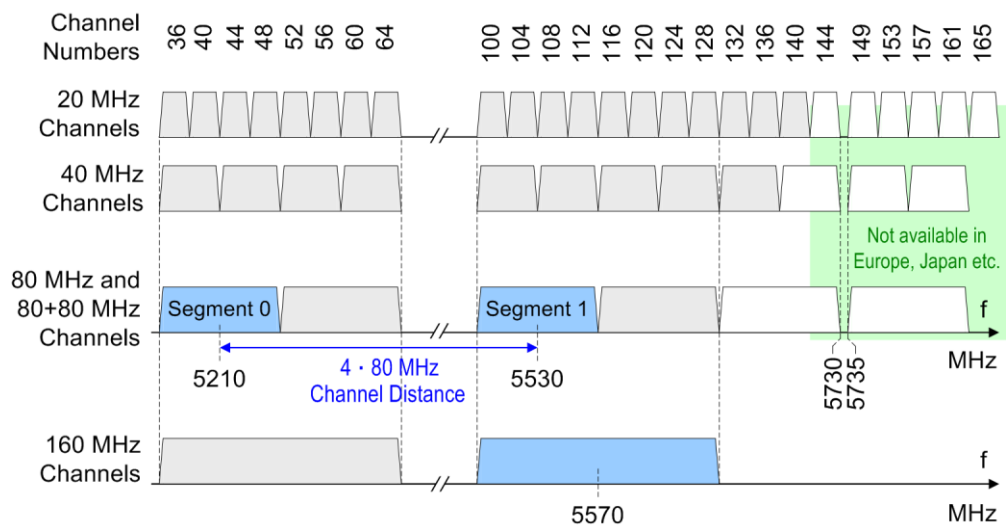

Fig. 1: 802.11ac channels
The 11ac amendment of the 802.11 standard specifies WLAN channels in the 5 GHz bandwidth bandwidths of 20 MHz, 40 MHz, 80 MHz and 160 MHz. The channels with bandwidths larger than 20 MHz fit into the grid of 20 MHz channels, e.g. an 80 MHz channel exactly comprises four 20 MHz channels. **Fig. 1** shows the available channels and gives examples for channels with overall 160 MHz bandwidth.
- **Noncontiguous 80+80 MHz channels** consisting of two nonadjacent 80 MHz channels. Rohde & Schwarz calls the two 80 MHz parts segment 0 and segment 1. The positions of the segments are defined by their central frequencies. The difference between the central frequencies of the segments is the channel distance. As can be seen from **Fig. 1**, the channel distance is a multiple of 80 MHz if segment 1 is not in the high frequency area (not available in Europe, Japan etc.).
Neglecting regulatory restrictions you can count from **Fig. 1** that there are 2 contiguous 160 MHz channels worldwide, and 4 noncontiguous 80+80 MHz channels in Europe and Japan. In the United States several additional noncontiguous 80+80 MHz channels are available due to the extended channel range in the high frequency region.